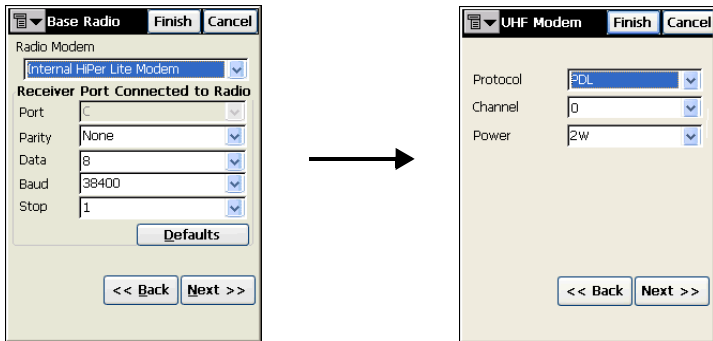

Figure 2-8. Configure RT DGPS Base Radio – UHF Example
6. For RT/Network DGPS configurations, select the type of radio modem and the port's settings for the Base radio and press **Next**. Depending on the type of modem selected, enter radio modem parameters and press **Next** (Figure 2-8 on page 2-7).